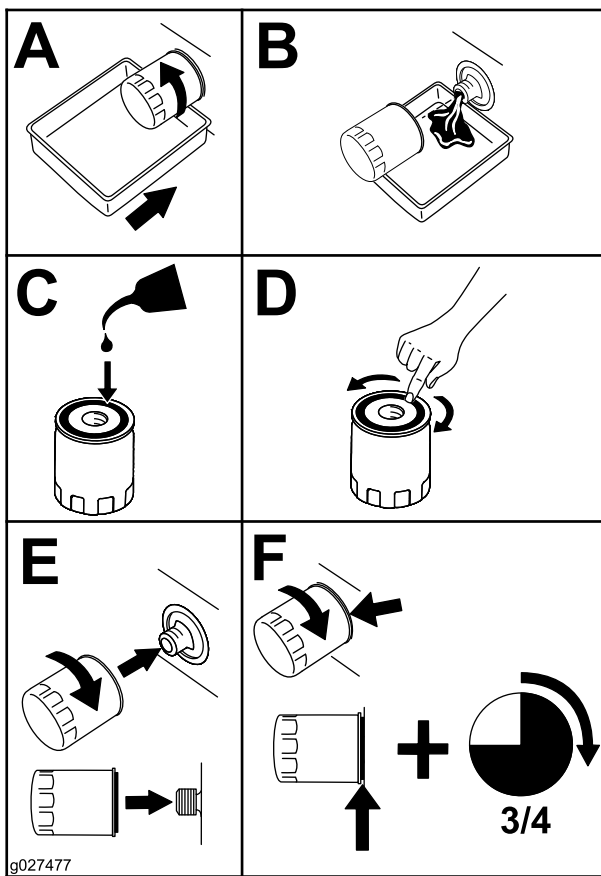

Figure 31
2. Change the engine-oil filter (Figure 31).